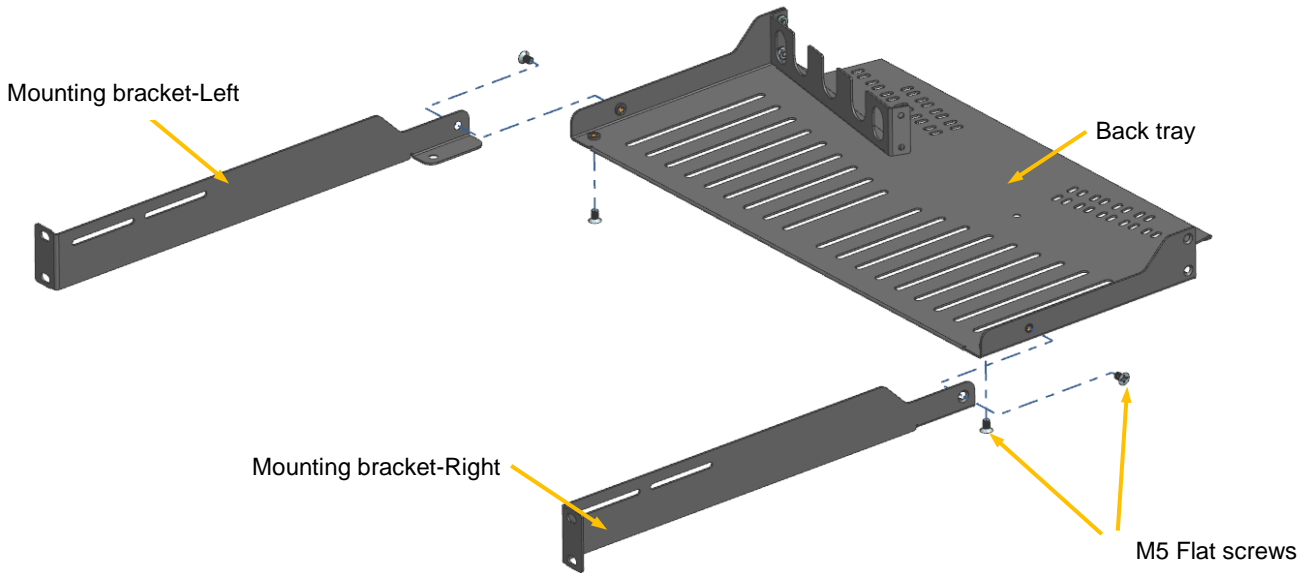

Fig. 3B
- Assemble the mounting brackets (left & right) to the base tray as shown using M5 x 8mm flat screws (Fig 3B).